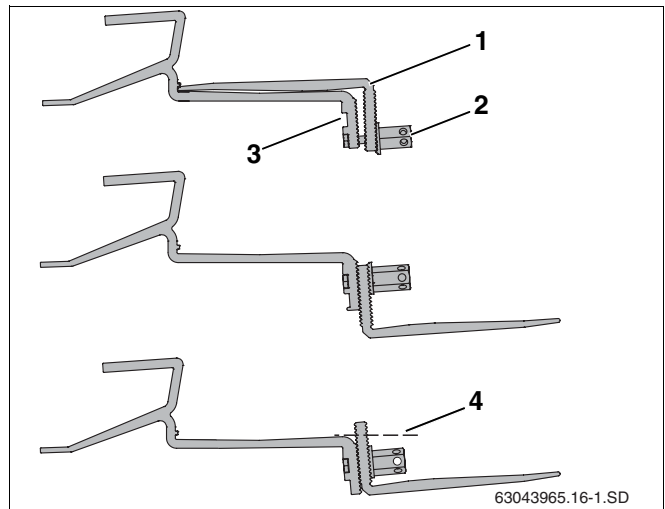

Fig. 16 Repositioning lower part of roof hook
- ▶ Loosen the long hexagon nut (Fig. 16, **Item 2**).
- ▶ Insert bolt into upper hole (Fig. 16, **Item 3**).
- ▶ Loosely fasten lower part of roof hook (Fig. 16, **Item 1**). Do not tighten the connection yet.